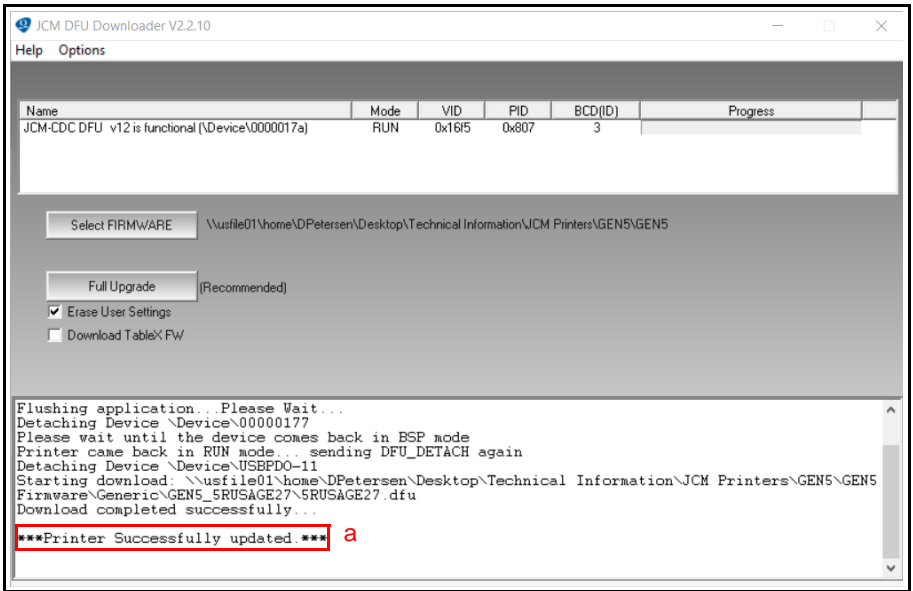

Figure 13 JCM DFU Downloader Firmware Update Complete
9. When the Printer status indicates *****Printer Successfully Updated.***** (Figure 13 a), the Firmware Update is complete.